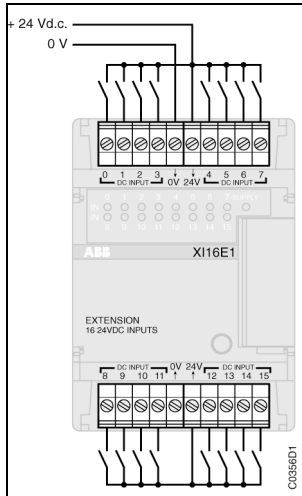

Figure 4-18 : Extension XI 16 E1
3.1. Extension XI 16 E1 (see Figure 4-18)